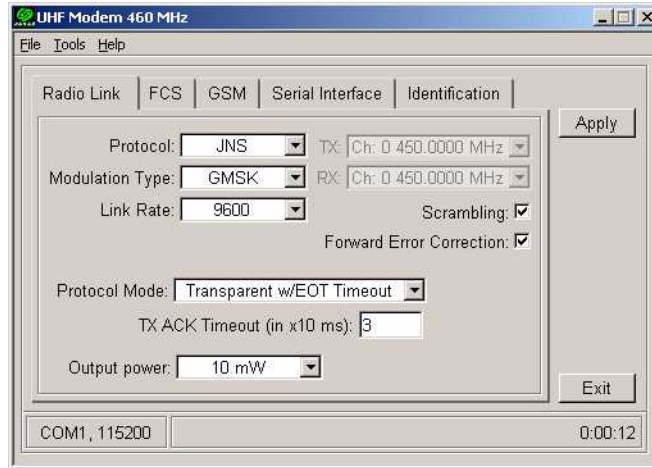

Figure 2-22. Radio Link Tab
1. From the **Protocol** control of the **Radio Link** tab, select between JNS and PDL (Figure 2-22):
5. Select **Scrambling** (see Figure 2-22 on page 2-28). If enabled, this parameter provides more robust data communications over the areas with possible interference.
6. For a maximum data communication reliability, select the **Forward Error Correction** check box (see Figure 2-22 on page 2-28). With this parameter enabled, the rover radio-modem has the capability to check and correct transmission errors (if any) in an incoming data stream.
9. From the **Output Power** control (see Figure 2-22 on page 2-28), select the level of RF transmit power from 10 mW to 2 W.
3. Select **Scrambling** (see Figure 2-22 on page 2-28). Must be the same for base and rover.
6. From the **Output Power** control (see Figure 2-22 on page 2-28), set the level of RF transmit power to 10 mW.